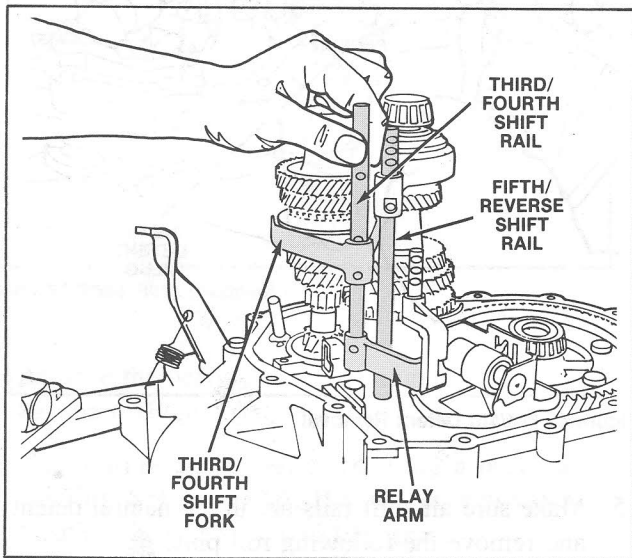

Figure 46 3rd/4th Shift Rail Removal
16. Remove the third/fourth shift rail. (Figure 46).